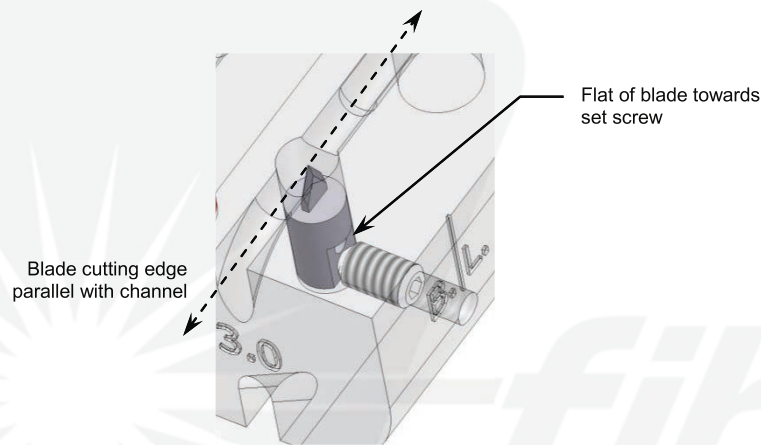

Figure 3
4. Place new blade in the blade pocket. Orient with plastic flat surface facing the screw and the blade parallel with the channel. (*Figure 3*)